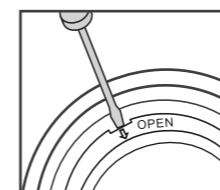

FIG. 21
- Pull out the detector head with a small "-" type screw driver carefully (See FIG.21).